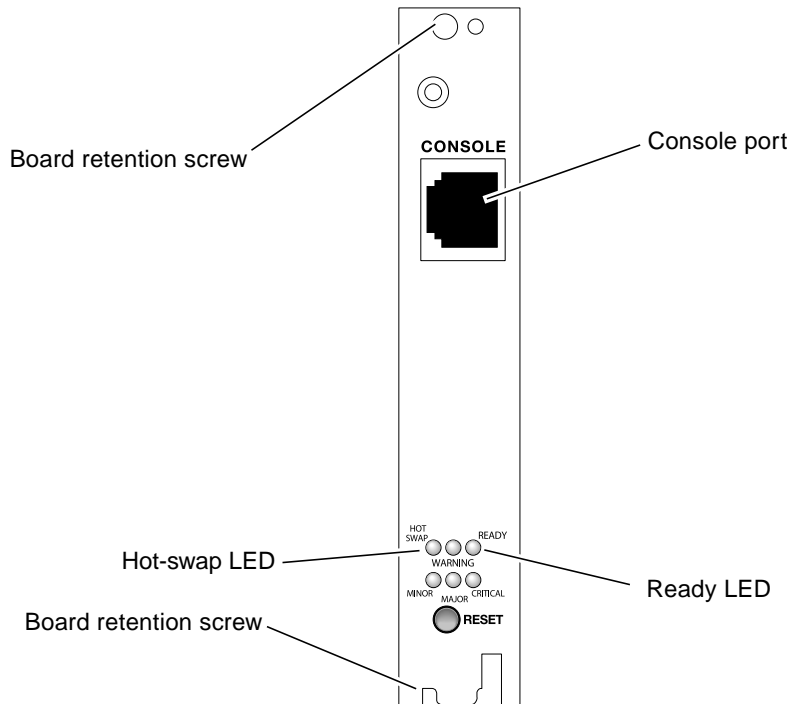

FIGURE 5-2 Distributed Management Card Ports
1. **Unscrew the board retention screws that fasten the board to the enclosure (FIGURE 5-2).**
- If system power is off or if the distributed management card's blue hot-swap LED is on, go to Step 3. Refer to FIGURE 5-2 for the location of the hot-swap LED.
Use only the Console port on the distributed management card; all other cabling should be to the rear transition card at the rear of the server. See FIGURE 5-2 for location of the Console port on the DMC.
Refer to FIGURE 5-2 for the location of the Console port on the distributed management card.